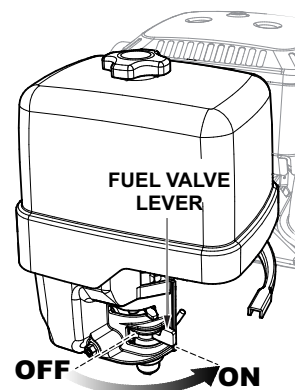

Figure 11. Engine Fuel Lever (ON)
- Place the engine fuel lever to the **ON** position. (Figure 11).